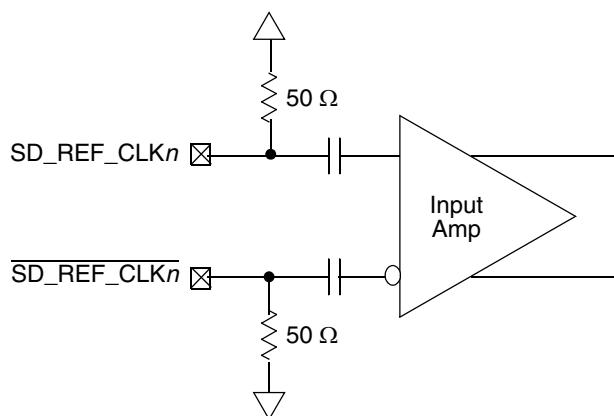

Figure 33. Receiver of SerDes Reference Clocks
- The $SD_REF_CLK_n$ and $\bar{SD_REF_CLK}_n$ are internally AC-coupled differential inputs as shown in Figure 33. Each differential clock input ($SD_REF_CLK_n$ or $\bar{SD_REF_CLK}_n$) has on-chip $50\text{-}\Omega$ termination to SGND followed by on-chip AC-coupling.